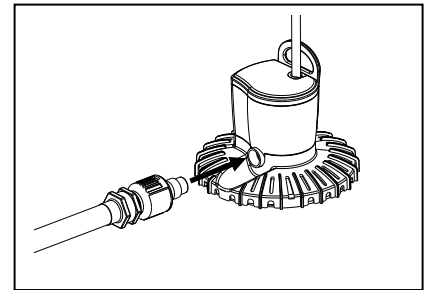

Fig. 2
2. Connect the check valve to the outlet of the pump. Fig. 2